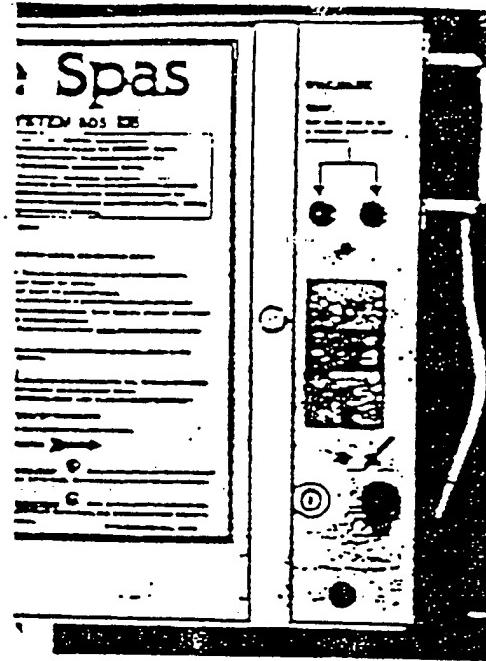

Fig 1-10 System Circuit Breaker/Fuse
1.1.9.2 Circuit Breakers: Most systems are equipped with a system circuit breaker and a circuit breaker for the blower motor. 605 systems manufactured since 1989 and 724 systems use replaceable fuses. A system circuit breaker is shown in Figure 1-10.